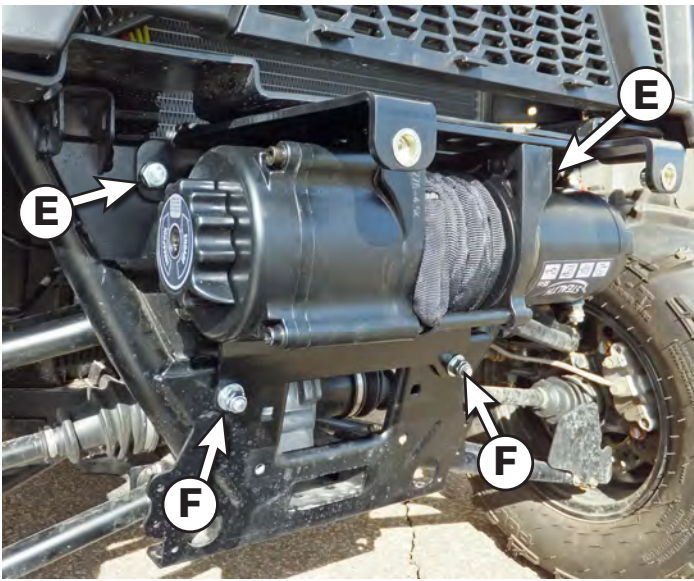

Figure 7.
- Lift assembled winch and mount into position on machine frame as shown in **Figure 7**. Fasten to frame using two M10 bolts & lock washers at positions (E) and two 3/8" carriage bolts & flange nuts at positions (F). Loosely start the top bolts first to make install easier. Install carriage bolts (F) with the head to the rear of the frame and nut on the front side with the mount plate as shown in **Figure 7 (pg3)** and **Figure A (pg1)**. Tighten all hardware evenly.